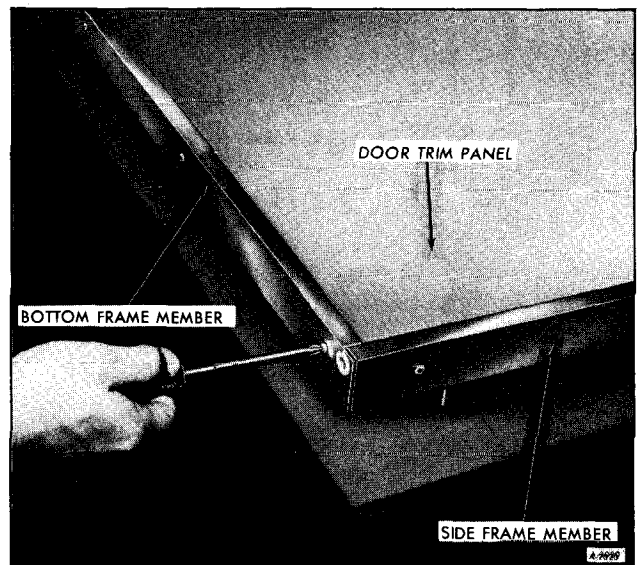

Figure 17—Removing Bottom Frame
2. Remove bottom frame member by removing three screws, as shown in Figure 17.
3. Install bottom frame member and secure with three screws (figure 17).